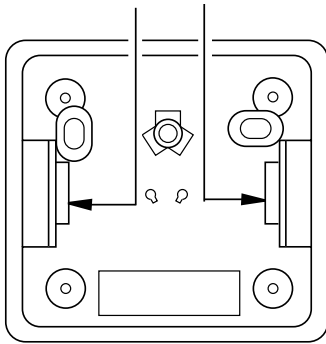

Figure 30 - Back View of Thermostat Base
5. Feed electrical wires through rectangular slots on each side of base (see *Figure 30*).